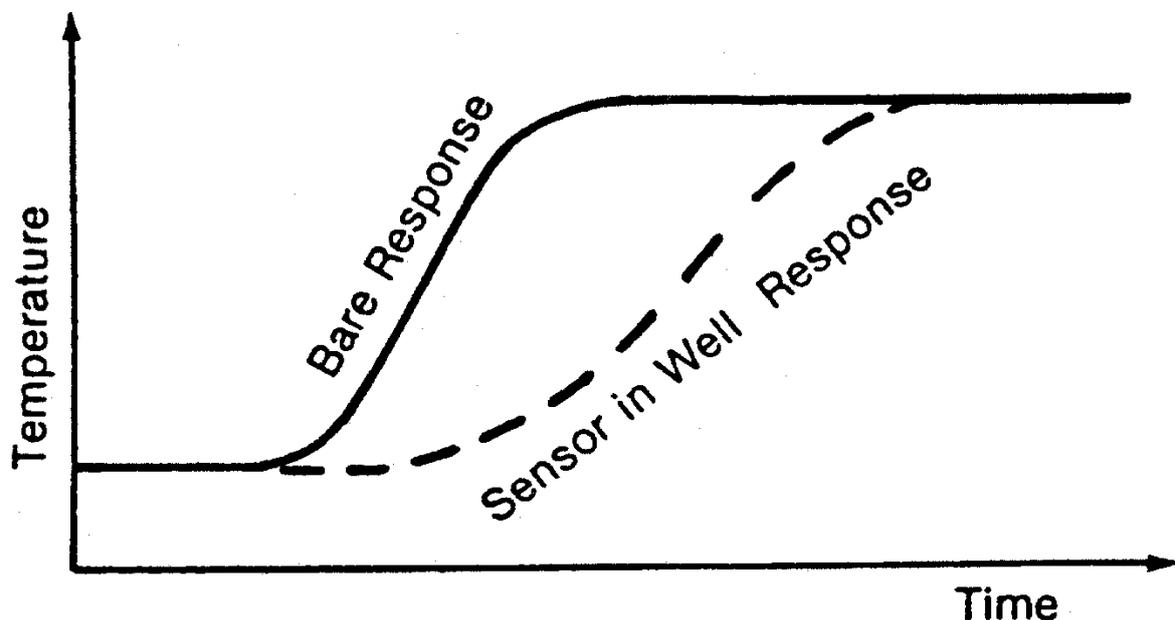

Figure 10: Response Curves of Bare Detector and Thermal Well Installation.
- An example of the temperature response for bare and thermal well installed sensors is shown in Figure 10.